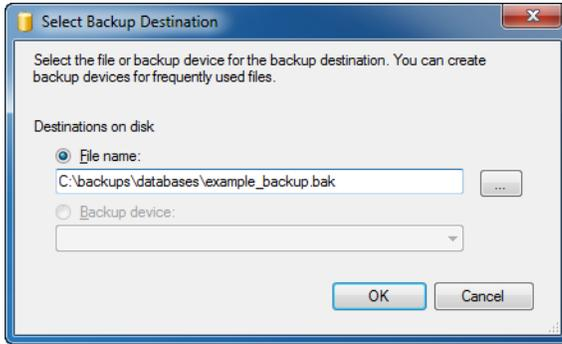

Figure 10-11.Entering a path and file name for the backup file.
5. Enter the path and file name for the backup file, and click **OK** (Figure 10-11)